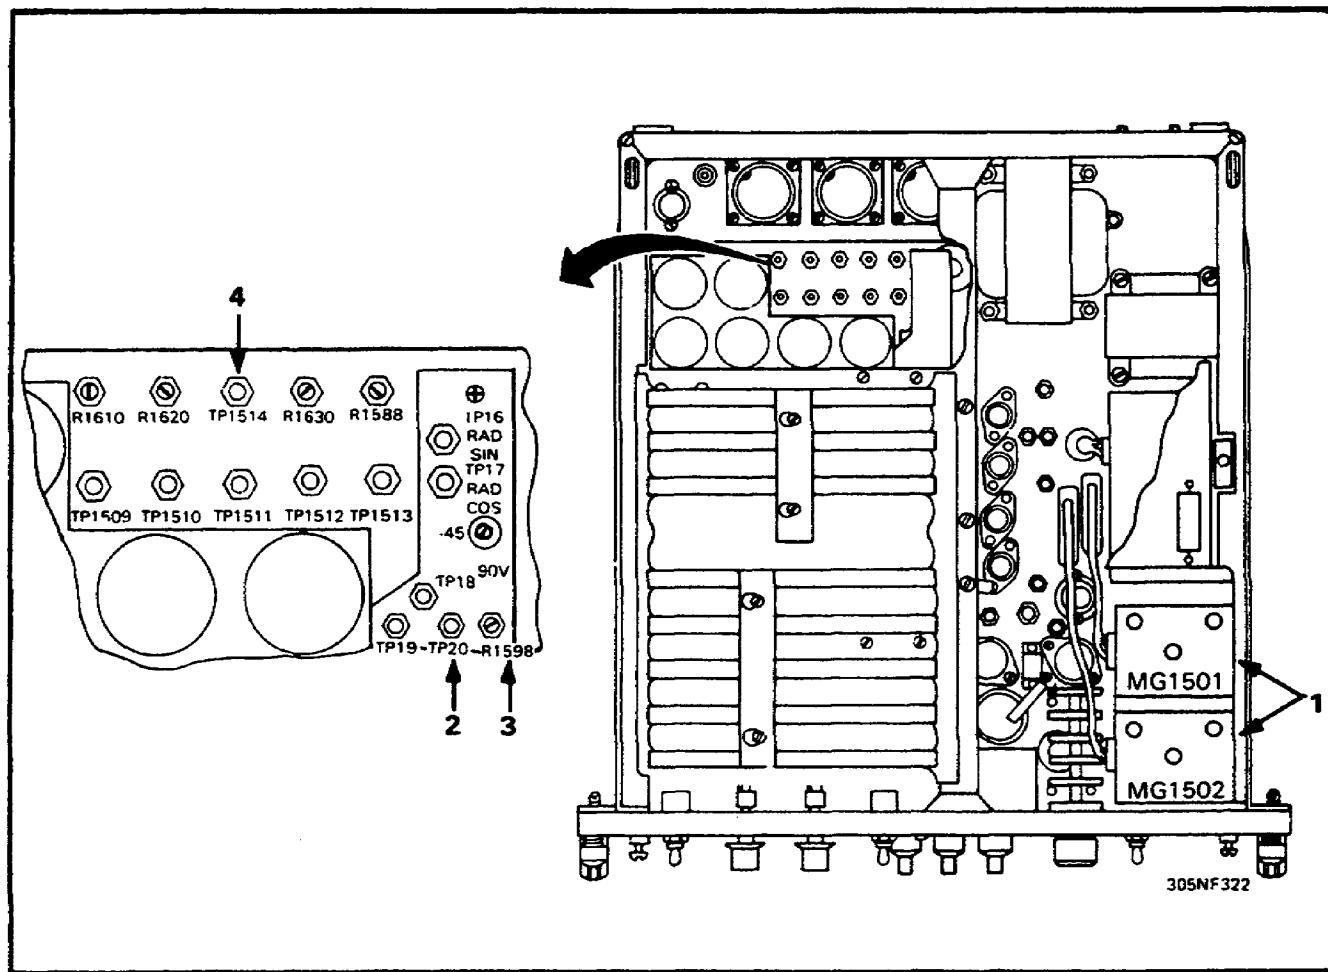

Figure 9. Components of synchronizer-generator, electronic-marker, SN-386/FPN-40.
h. Locate the following components of the synchronizer-generator, electronic-marker SN-386/FPN-40. (See Figure 9.)
- (1) Radar and IFF sine-cosine converters MG-1501 and MG-1502.
- (2) 90 V AC test point TP-1520.
- (3) 90 V AC ADJ control R-1598.
- (4) Ground test point TP-1514.
- Radar sine-cosine converter MG-1501 (Figure 9)
- IFF sine-cosine converter MG-1502 (Figure 9)
- 90 V AC test point TP-1520 (Figure 9)
- 90 V AC adjust control R-1598 (Figure 9)
- Ground test point TP-1514 (Figure 9)